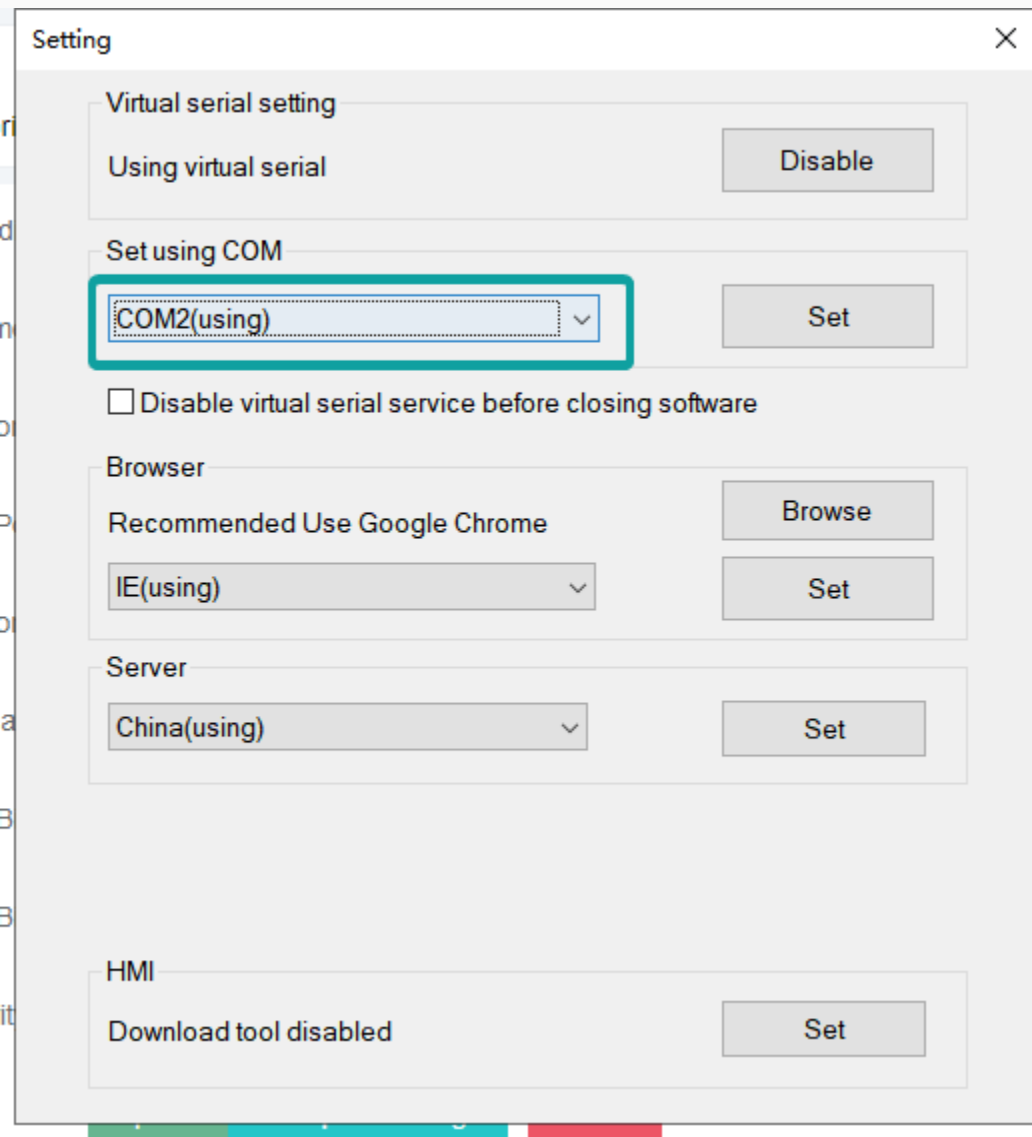

Figure 7
- Click the setting (gear icon) in the upper right corner of PC Client, and a dialog will pop up. The red area is the COM port configuration when the PLC pass-through downloads. As shown in Figure 7: